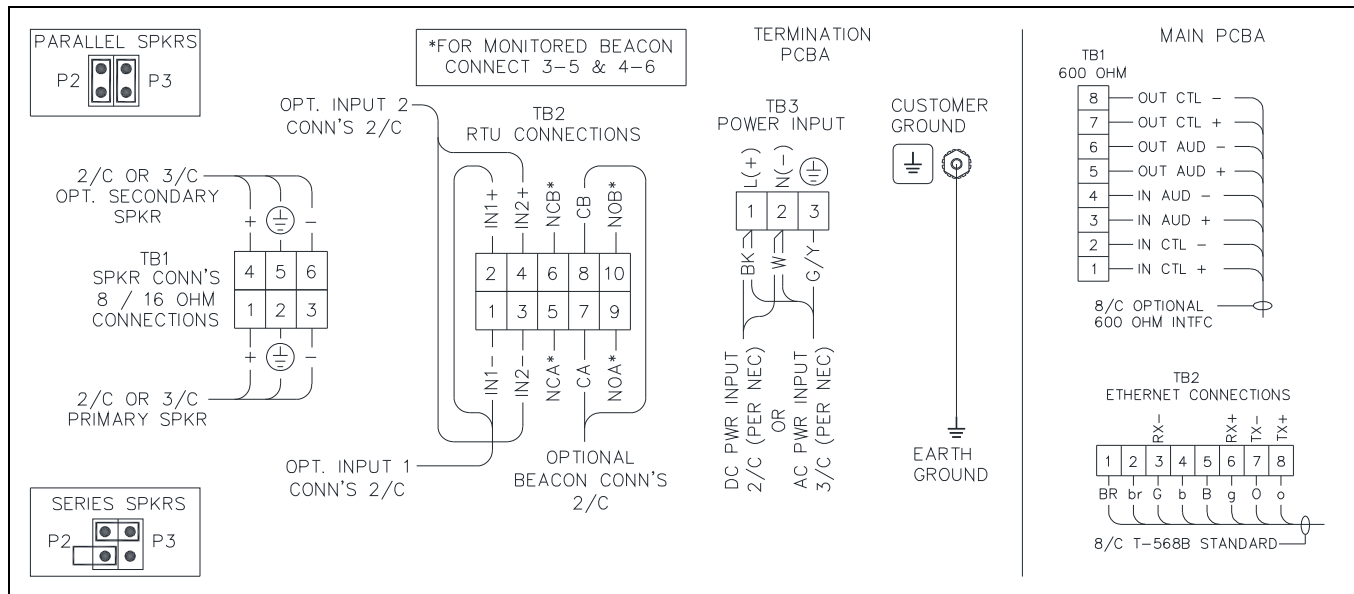

Figure 3. SP2 Connection Diagrams
The SP2 station provides terminal blocks, on the termination PCBA, located in the rear enclosure, for field wiring the power, speaker, and RTU connections. The main PCBA, mounted to the back of the front panel, provides pluggable terminal blocks for the 600-ohm audio and Ethernet network connections (see Figure 3).
2. Secure it to the ground terminal located in the lower right corner at the back of the rear enclosure (see Figure 3).
5. Configure the speaker jumpers, P2 and P3, for the impedance of the connected speakers (see Figure 3).
6. Terminate the RTU inputs and output to terminal block TB2 on the termination PCBA (see Figure 3).
7. Terminate the ac or dc power input to terminal block TB3 on the termination PCBA (see Figure 3).
8. Terminate the 600-ohm audio connections to terminal block TB1 on the main PCBA (see Figure 3).
9. Terminate the Ethernet connection to terminal block TB2 on the main PCBA (see Figure 3).